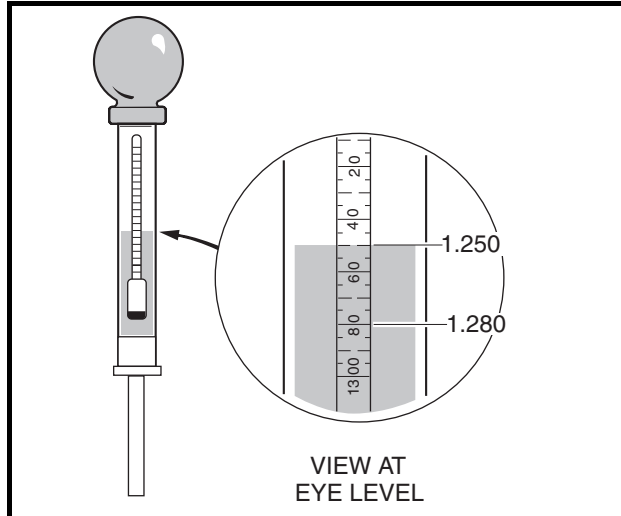

Figure 11-4 Hydrometer Test
A hydrometer (CCI P/N 1011478) measures the specific gravity. The higher the specific gravity, the higher the state of charge of the battery. A fully charged battery should read between 1.250 and 1.280 at 80 °F (27 °C). Never add acid to the battery to obtain a higher specific gravity (**Figure 11-4, Page 11-10**). See following **CAUTION**.
6. Hold the hydrometer vertically, ensuring that the float is not contacting the sides of the glass tube. Hold the hydrometer at eye level and read the scale at the level of electrolyte (**Figure 11-4, Page 11-10**).